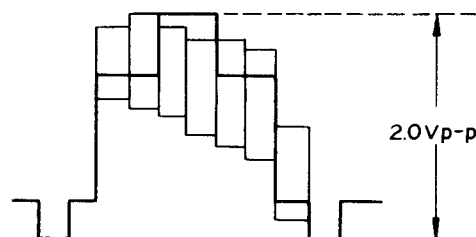

Figure 97.
2. Observe the output of TP-403 on oscilloscope (external trigger, TP-506), and adjust R442 (playback level control) so that the waveform will be as shown. (Fig. 97)